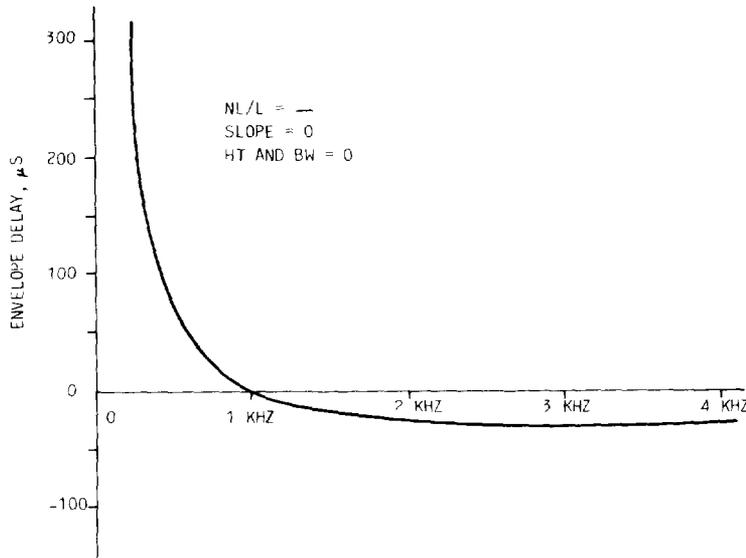
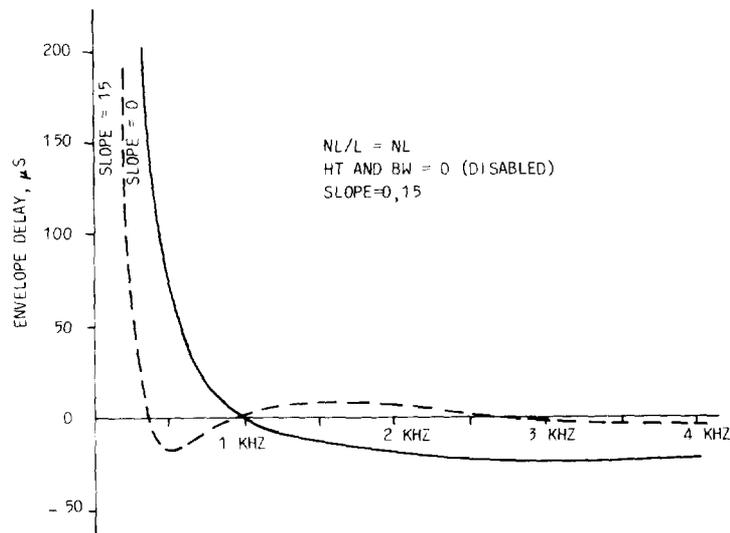
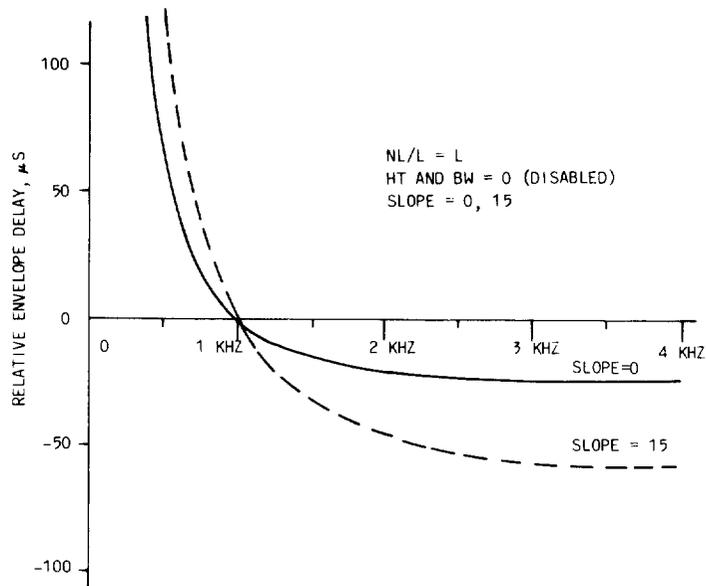
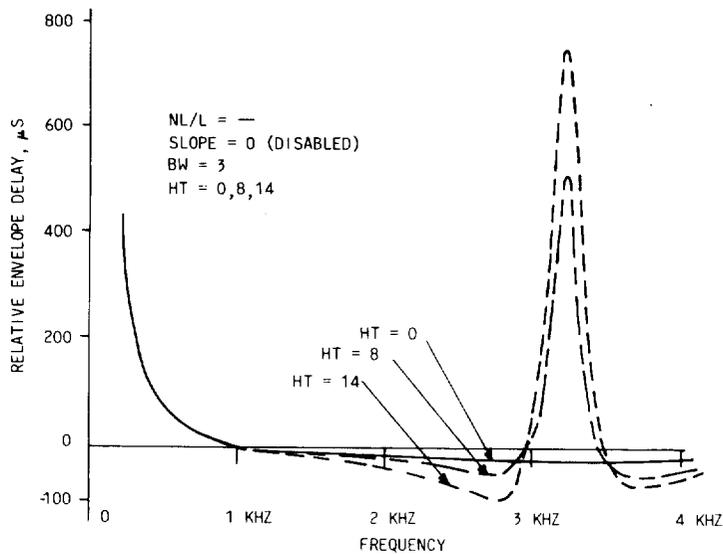

Fig. 13—Relative Envelope Delay Distortion (Equalizer Disabled)
Fig. 14—Relative Envelope Delay Distortion (Nonloaded, SLOPE = Variable)
Fig. 15—Relative Envelope Delay Distortion (Loaded, SLOPE = Variable)
Fig. 16—Relative Envelope Delay Distortion (BW = Small Setting, HT = Variable)
4.03 Figures 13 through 17 give the envelope delay distortion (EDD). Figure 13 shows the EDD for the repeaters with the equalizer disabled. Figure 14 shows the EDD for various SLOPE settings with the NL switch set to interface nonloaded cable (switch toward NL). Figure 15 shows the EDD for the same SLOPE settings with the NL switch set to interface loaded cable (switch away from NL). Figure 16